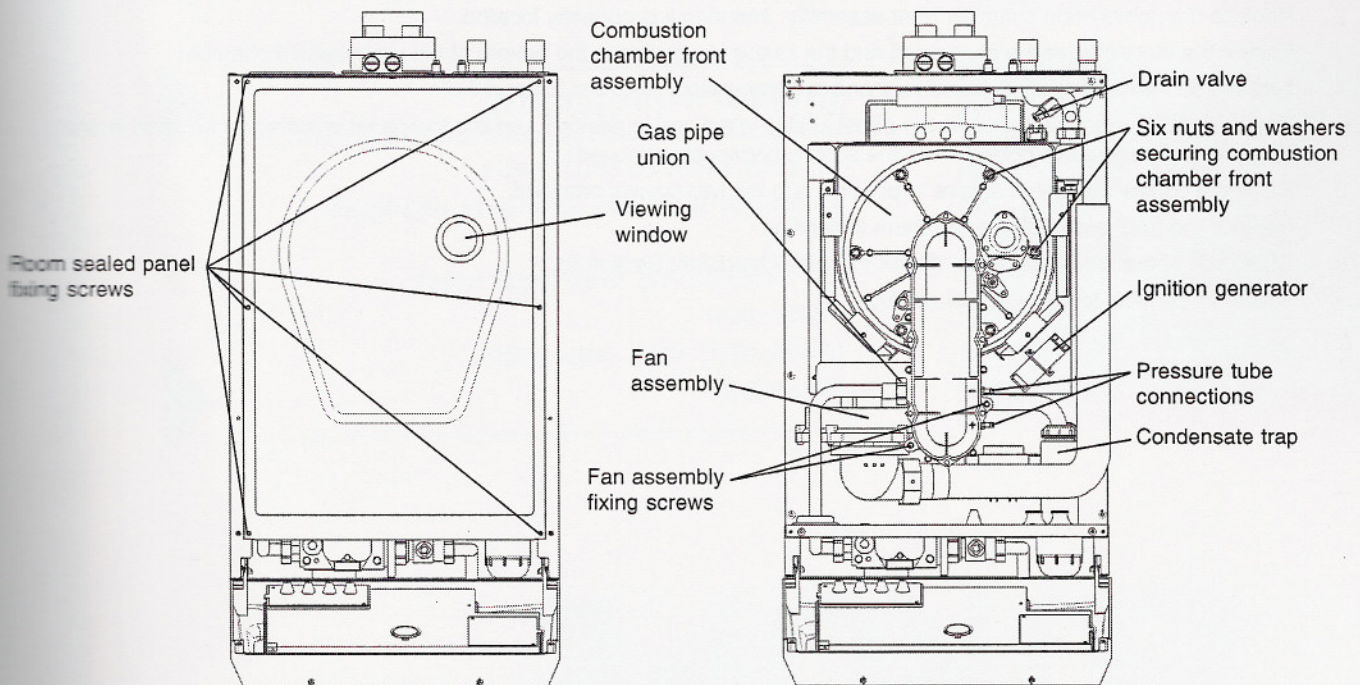

Fig. 25
7.2 PREPARE FOR SERVICING - Fig. 25
8.1 GENERAL ACCESS - Fig. 25
2. Close the central heating flow and return valves and gain access as described in Section 8.1. Connect a hose to the drain valve located in the flow pipe just above the heat exchanger (see Fig. 25) and route it to a suitable container. Open the drain valve.